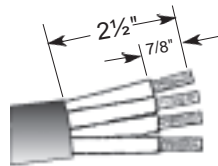

Fig. 1
- Strip cord jacket and conductor insulation as shown in Fig. 1 below. **DO NOT TIN CONDUCTORS.**